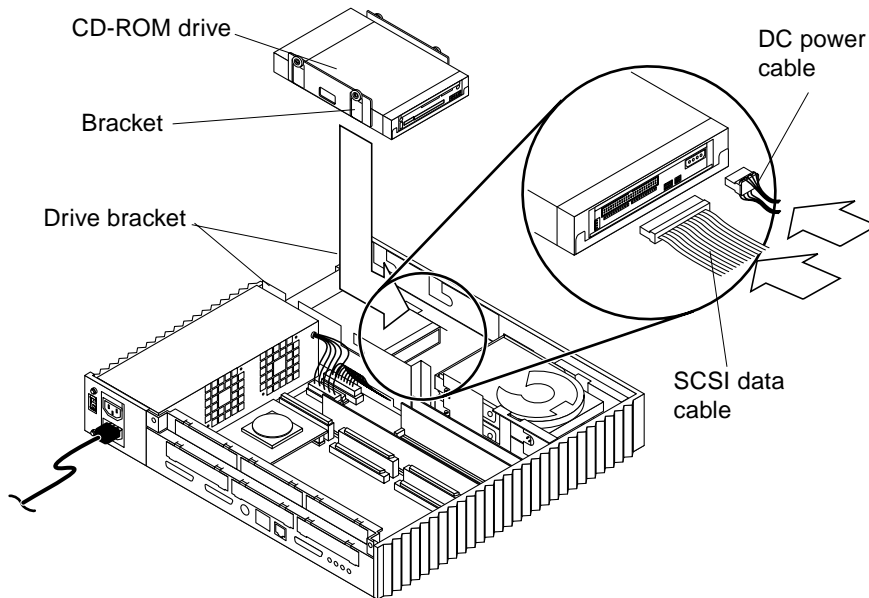

FIGURE 9-8 Installing a CD-ROM Drive
3. **Install the CD-ROM drive as follows (FIGURE 9-8):**